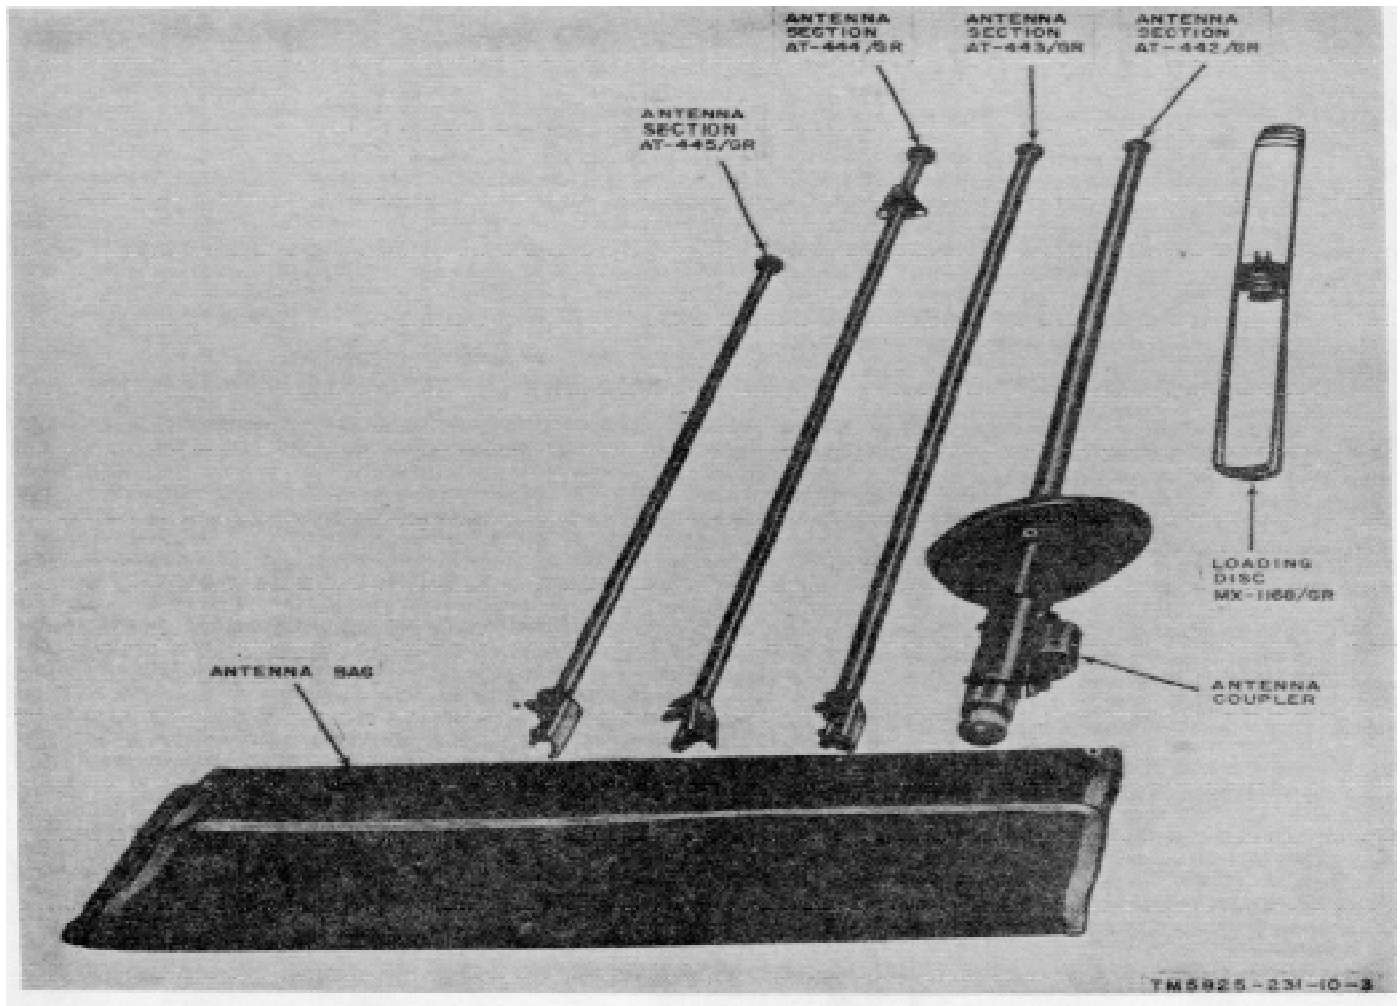

Figure 1-4. Antenna Assembly AS-1881/GR.
- (1) Antenna Assembly AS-1882/GR
- (2) Base, Antenna MT-865/GR
- (3) Counterpoise, Antenna MX-4487/G
- (4) Guy Set OA-7908/G
b. *Antenna Assembly AS-18821GR* (fig 1-4).